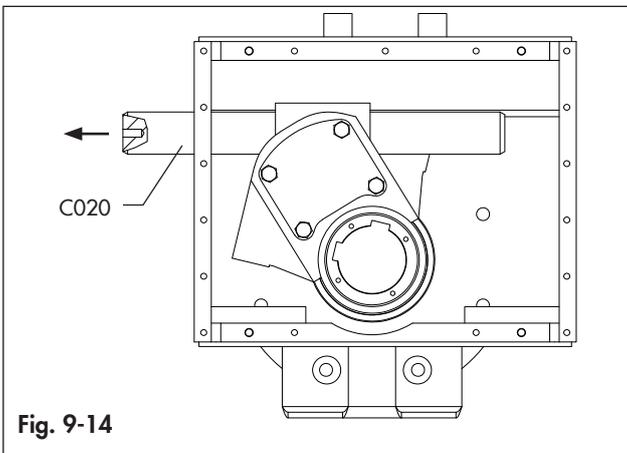

Fig. 9-14
- Remove the guide bar (C020). A threaded hole is available into the front side of the guide bar for lifting by means of proper equipment. (Fig. 9-14)